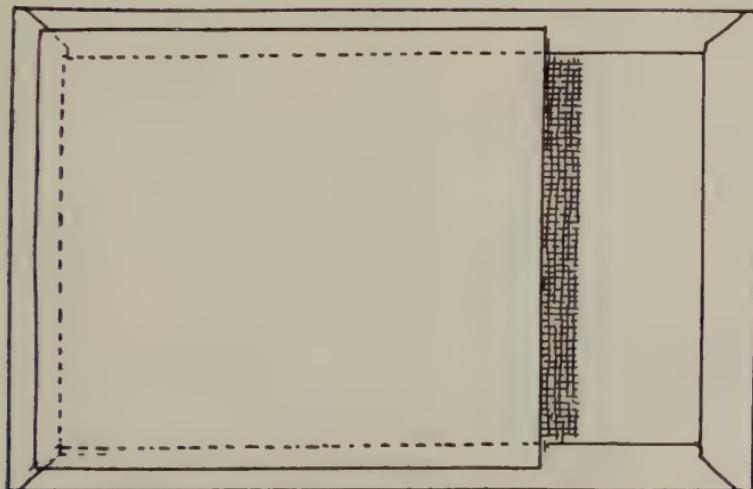

FIG. 77—FINISHED EASEL WITH LINING PAPER GLUED TO UNDER SIDE, COVERING REVERSE SIDE OF BOARD
13. Now glue off the piece of easel paper for lining out (piece is $4\frac{1}{2}'' \times 4\frac{3}{4}''$) and mount it solid to the back of the easel board. (Fig. 77.)